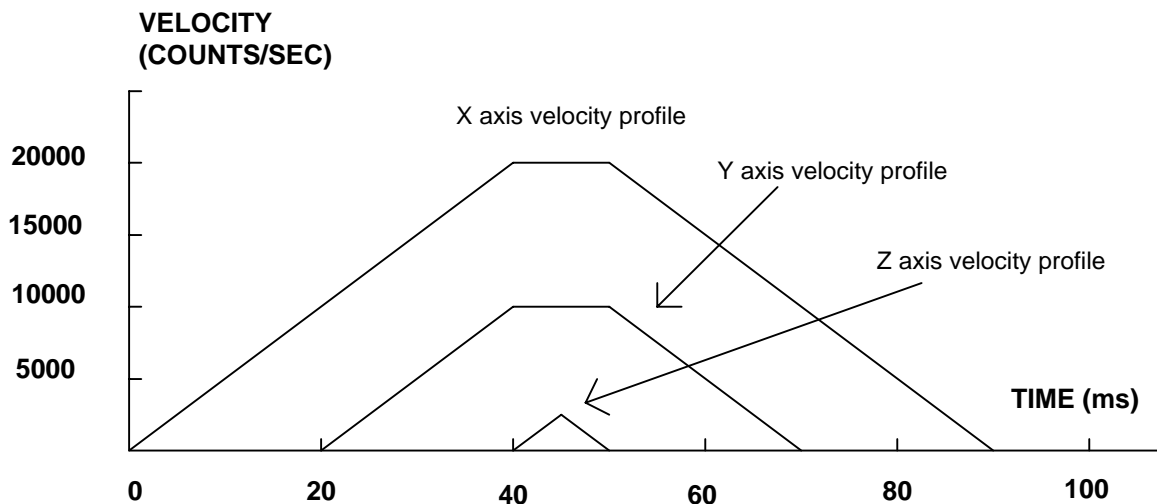

Figure 6.1 - Velocity Profiles of XYZ
This example will specify a relative position movement on X, Y and Z axes. The movement on each axis will be separated by 20 msec. Fig. 6.1 shows the velocity profiles for the X,Y and Z axis.
**Notes on fig 6.1:** The X and Y axis have a ‘trapezoidal’ velocity profile, while the Z axis has a ‘triangular’ velocity profile. The X and Y axes accelerate to the specified speed, move at this constant speed, and then decelerate such that the final position agrees with the command position, PR. The Z axis accelerates, but before the specified speed is achieved, must begin deceleration such that the axis will stop at the commanded position. All 3 axes have the same acceleration and deceleration rate, hence, the slope of the rising and falling edges of all 3 velocity profiles are the same.